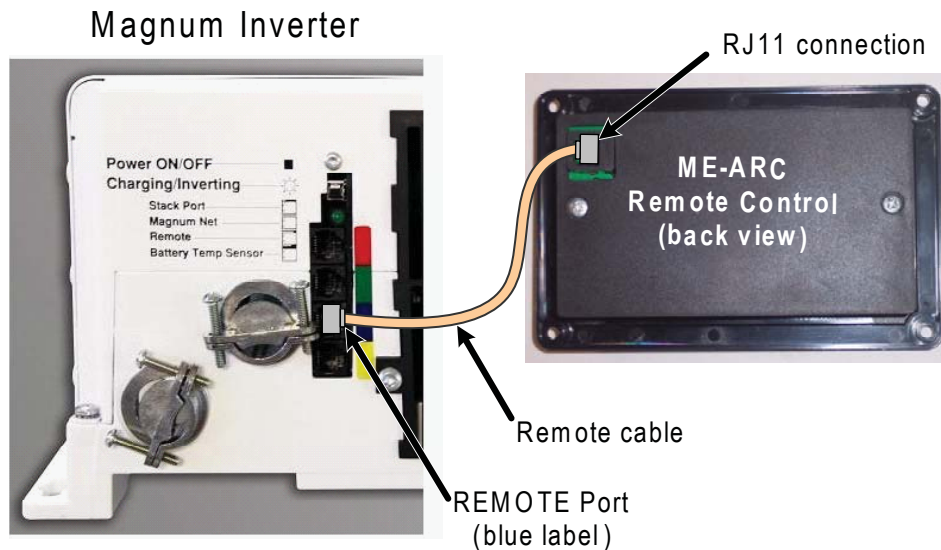

Figure 2-3, Remote Control Connections
4. Connect the remote cable into the RJ11 "Remote" port (has blue label) on the inverter/charger (see Figure 2-3).
6. While monitoring the front of the remote, connect the other end of the cable into the RJ11 jack on the backside of the remote (see Figure 2-3).